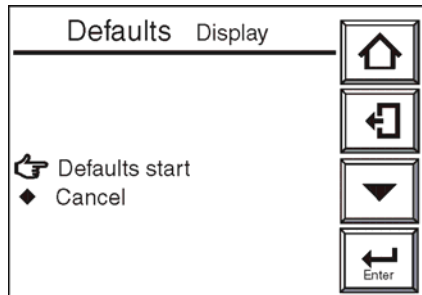

Figure 10-12 Initialization Start Display
4. Select the data to initialize from the "Defaults Display" screen shown in Figure 10-12.